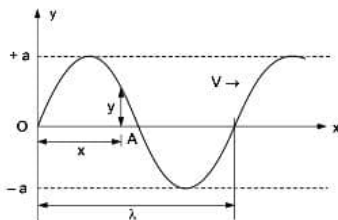

Fig. 1.4 : Progressive wave
- Consider a progressive wave originating at the origin O and travelling along the positive x -axis with velocity v as shown in Fig. 1.4.